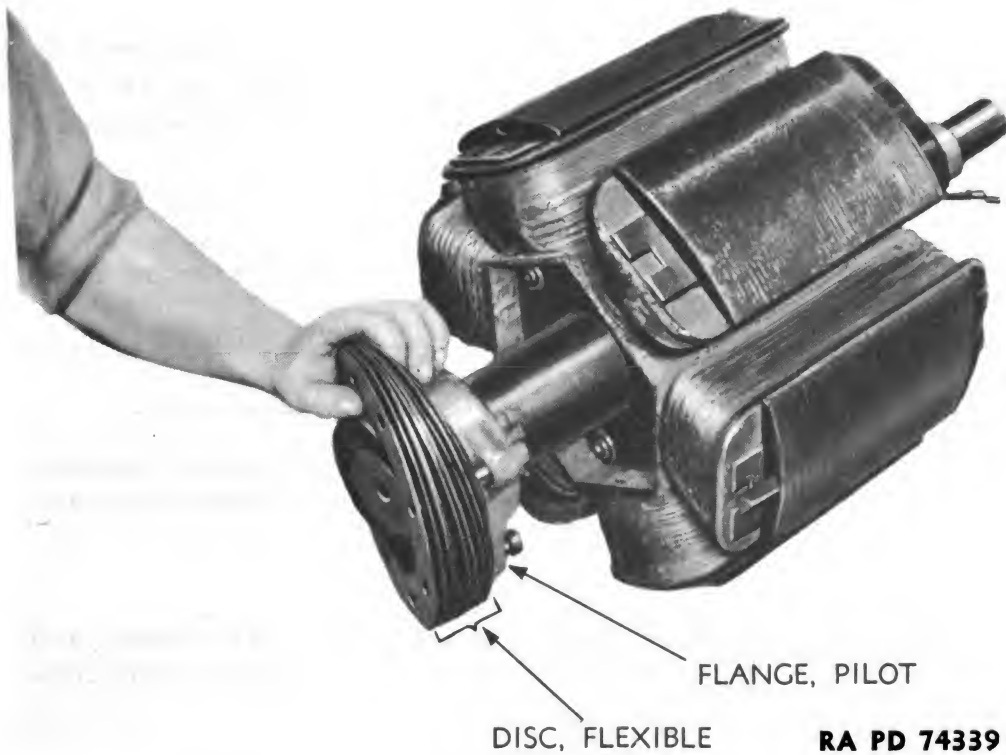

Figure 185 — Removing Coupling Flexible Disks
(9) Take nuts from cap screws holding flexible disks to pilot flange, and remove disks (fig. 185).